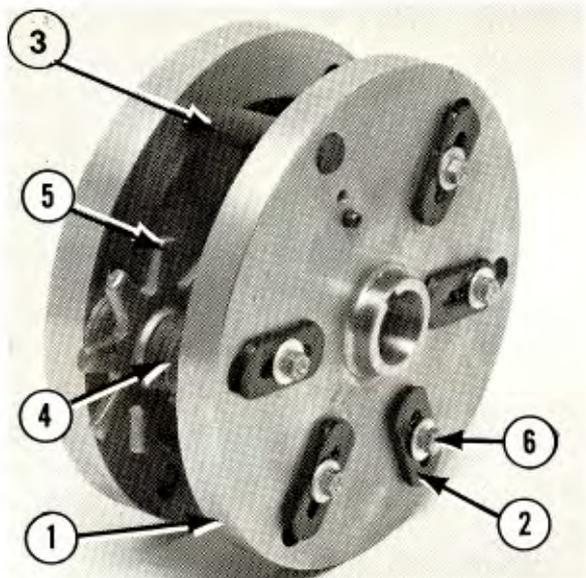

FIGURE 6
3. Remove wrench and place on bolt just exposed. Loosen bolt at least one full turn. Slide retainer back exposing pin. Refer to Figure 6.